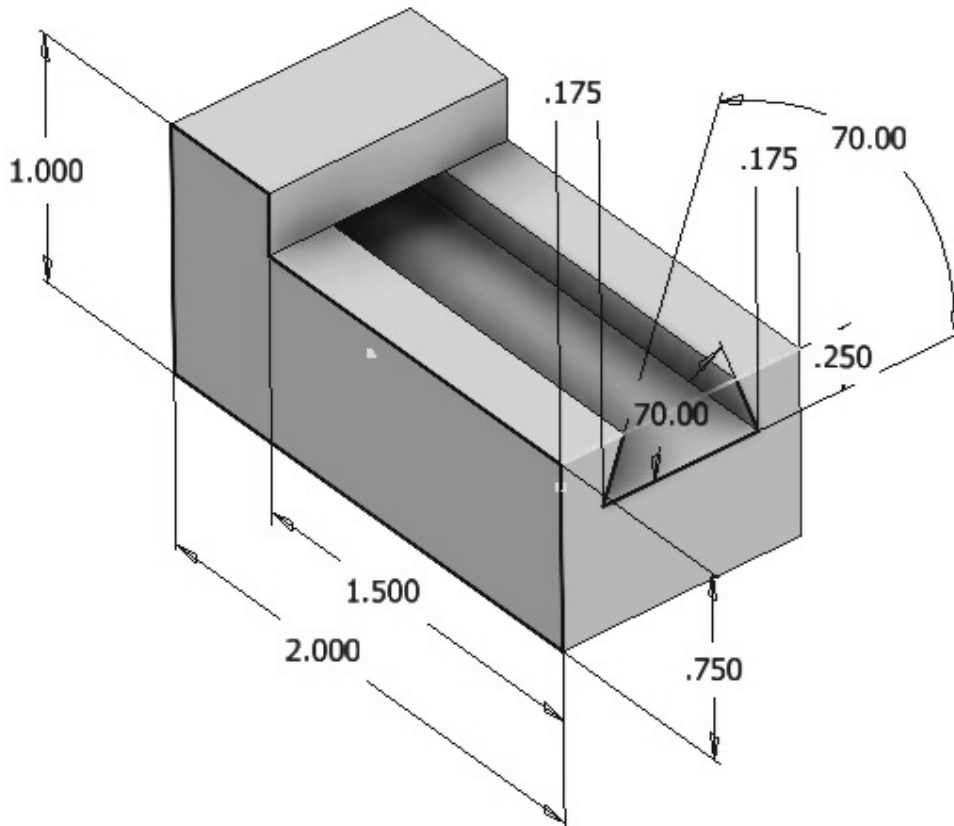

Figure 1
3. Complete the drawing on the **XY Plane** including the Point on the lower right face of the part shown in Figure 1.